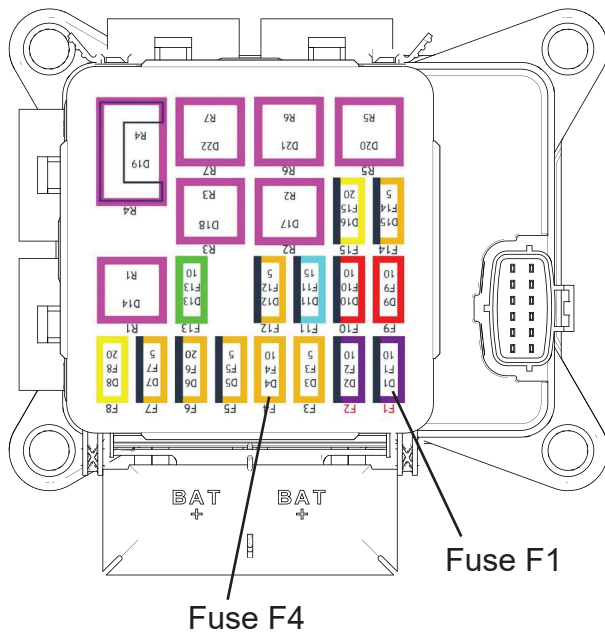

Figure 2
5. Remove the 10 amp fuses at position F1 and F4, see Figure 2.
6. Install the 15 amp fuses supplied at position F1 and F4, see Figure 2.